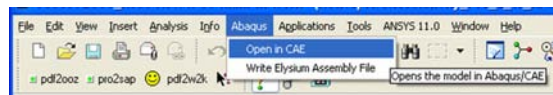

Figure 4. Open in CAE.
4. From the Pro/E menubar select Abaqus/Open in CAE (Figure 4).
- 2 From the Pro/E menubar select Abaqus/Open in CAE (as shown in Figure 4) to import the color change into Abaqus/CAE.